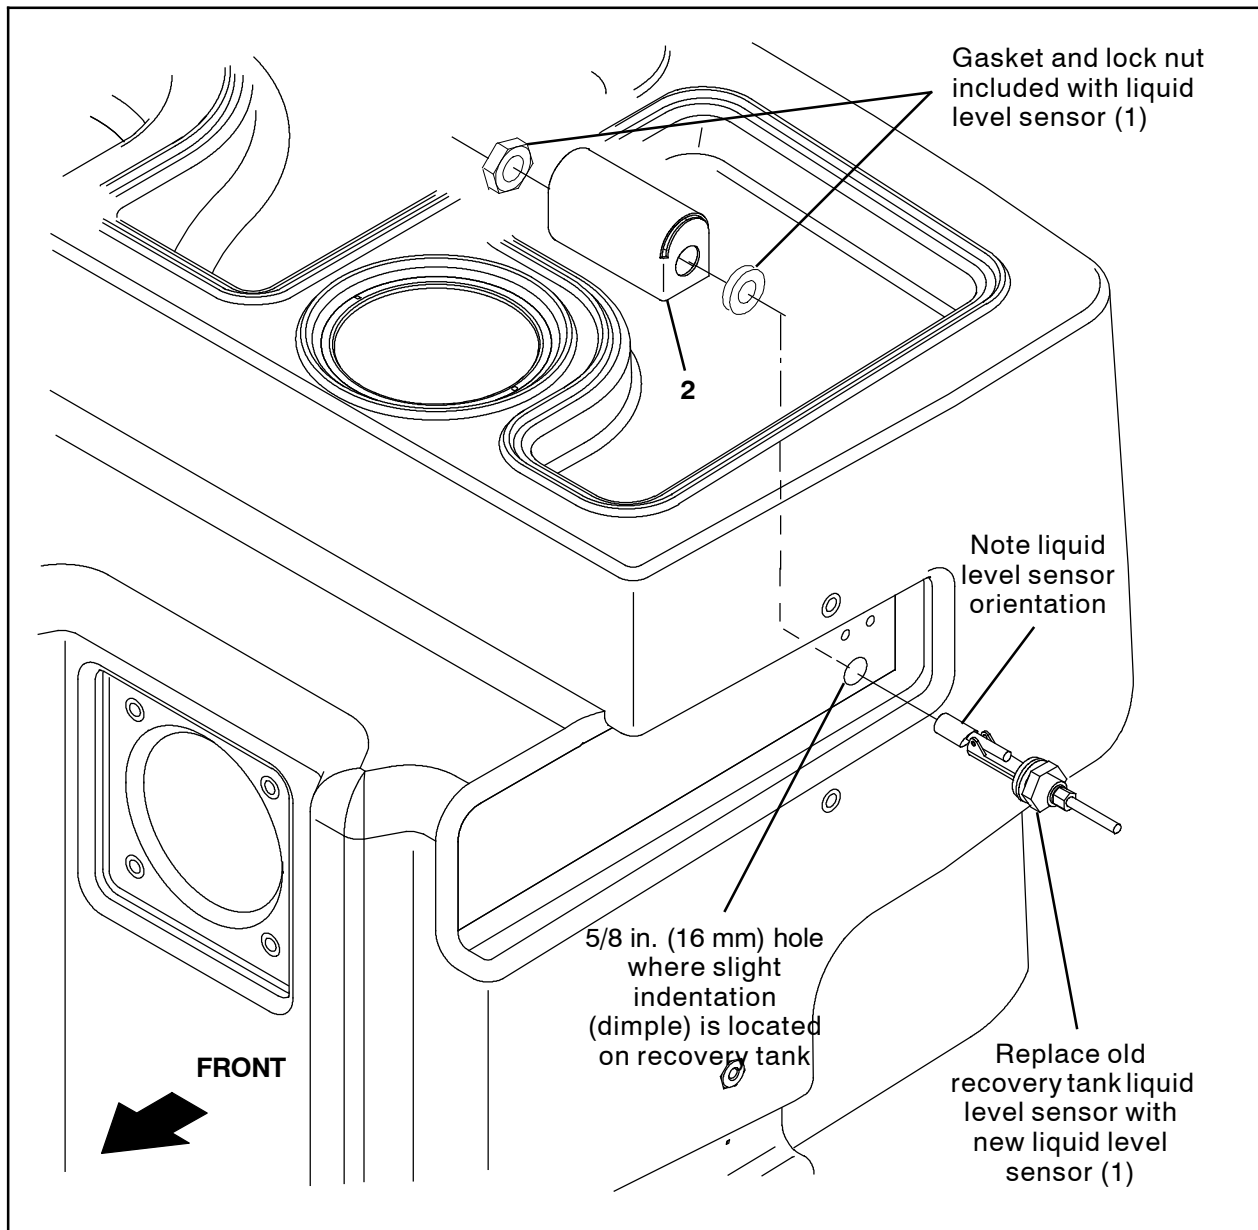

FIG. 1
3. Drill a 5/8 in. (16 mm) hole into the side of the recovery tank where the slight indentation (dimple) is located. (Fig. 1)
4. Remove the lock nut and gasket from the new liquid level sensor (1).
5. Route the main wire harness liquid level sensor to where new liquid sensor (1) will be installed and connect the main harness to the new liquid level sensor.
6. Use the lock nut and gasket to install the liquid level sensor (1) and float switch protector bracket (2) into the recovery tank. (Fig. 1)
NOTE: Position the liquid level sensor so the narrow end of the float mechanism is oriented as shown in Fig. 1.